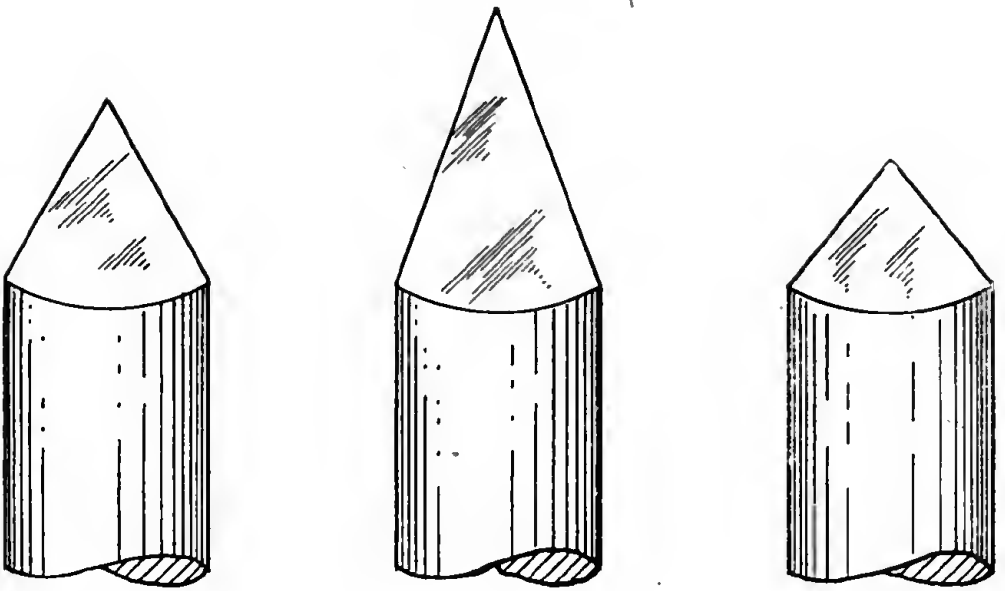

Figure 155. Plain and electric soldering copper.
(3) Used correctly, the blowtorch is perfectly safe. Used incorrectly it may explode. Following are some rules governing the use of a torch which should always be strictly adhered to:
c. SOLDERING COPPERS. (1) A soldering copper (fig. 155) is used to